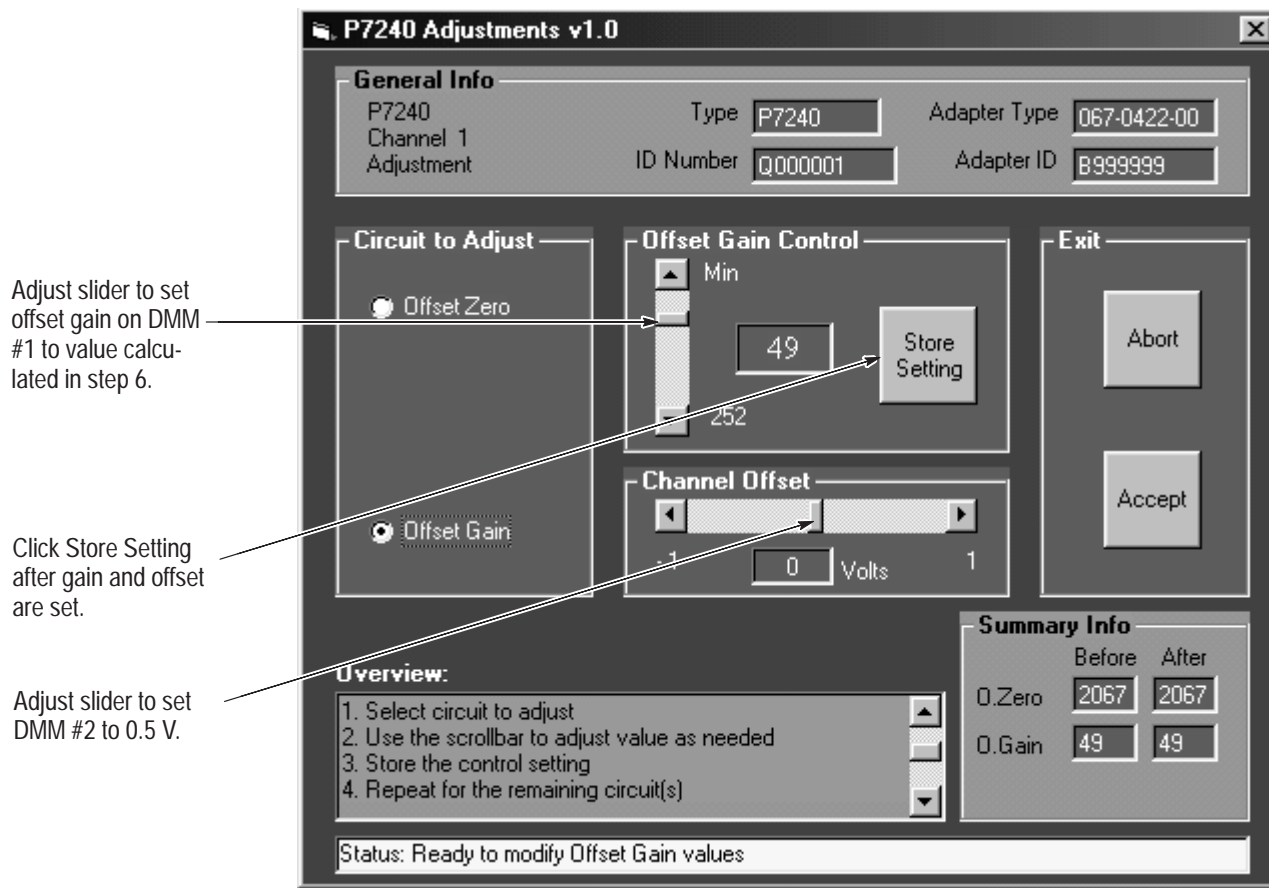

Figure 13: Offset Gain window
- Click **OFFSET GAIN** in the application window. See Figure 13 on page 20.